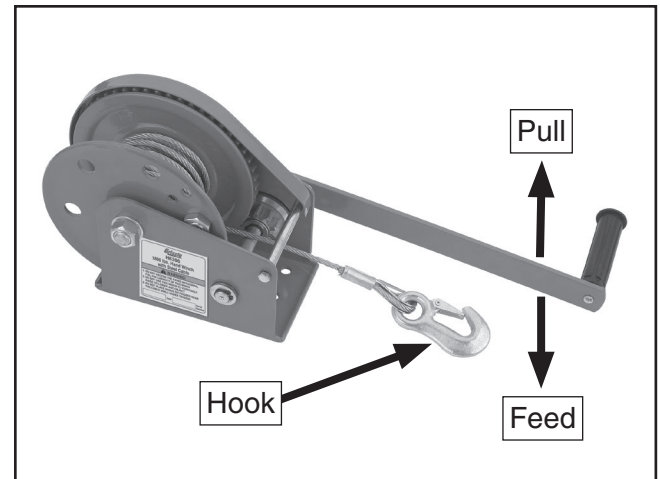

Figure 3. Operations.
1. Feed slack by turning the handle as indicated in **Figure 3** until the hook can be attached to the load.